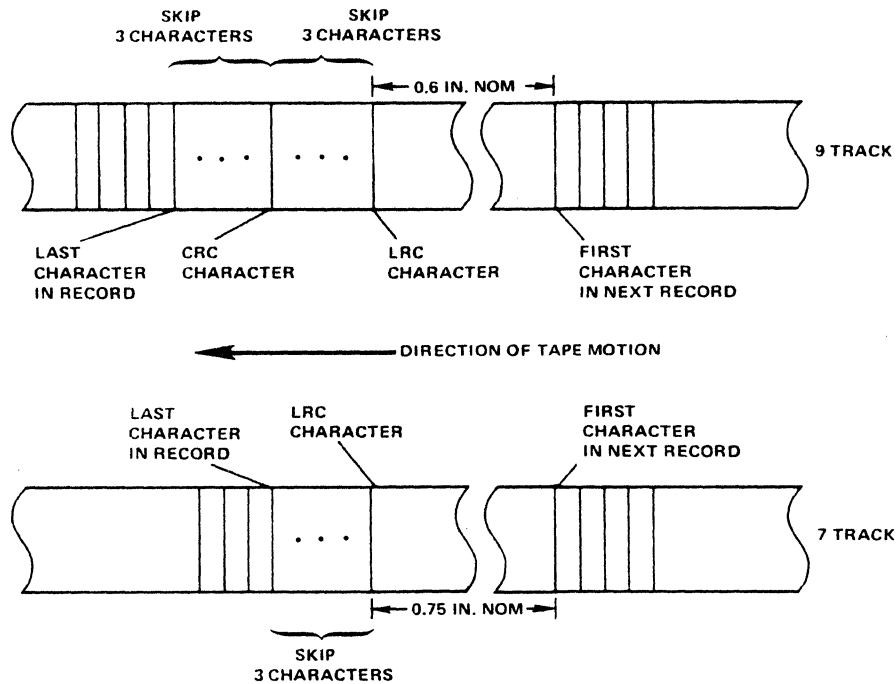

Figure 4-48. End-of-Record Mark Formats for 7- and 9-Track NRZI Tapes
The data is formatted and recorded on the tape in blocks referred to as records. The exact configuration of a record depends on whether the tape is in 7- or 9-track format. On 9-track tape, each record consists of the data, a cyclic redundancy check (CRC) character, and a longitudinal redundancy (LRC) character. The CRC character must occur four character times after the final data character, and the LRC character must occur four character times after the CRC. A minimum spacing of 0.5 inch is required between records. The end of a record is shown in figure 4-48.
On 7-track tape, each record consists of data, followed by an LRC character only, as shown in figure 4-48. Minimum spacing between data records is 0.6 inch.
The data is formatted on the tape in records, with each record consisting of a preamble, the data, and a postamble. See figure 4-48. The preamble consists of 40 characters of logical 0's and one character of logical 1. The postamble is a mirror image of the preamble, and consists of one character of logical 1 and 40 characters of logical 0's. A minimum spacing of 0.5 inch is required between records. PE data is always recorded on 9-track tape.
- e. After the last character in the record is written, the formatter will gate the proper CRC, LRC, as they are shown in figures 4-48, 4-50 and 4-51.